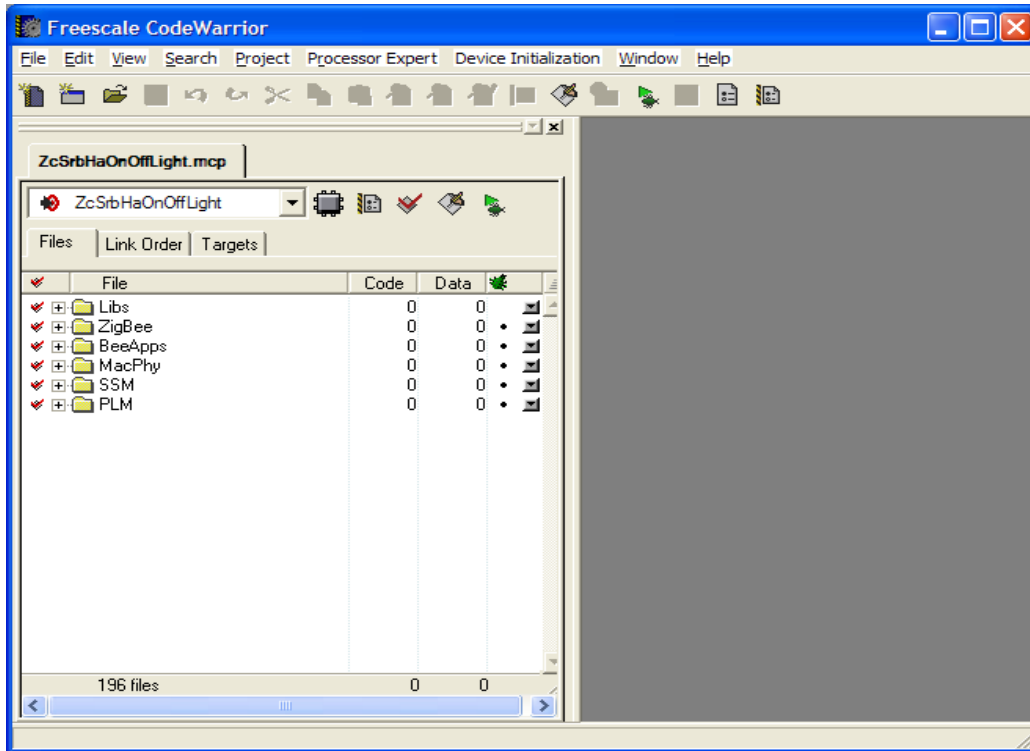

Figure 3-17. CodeWarrior ZcSrbHAOnOffLight Project Window
7. CodeWarrior creates and loads the project file as shown in Figure 3-17.